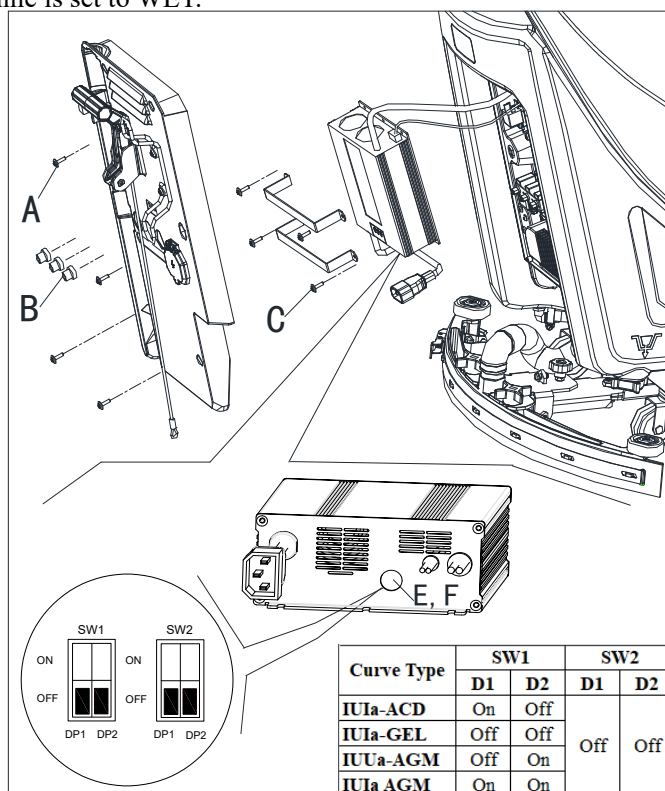

Figure 4.1
6. Remove the screws (A, B, C, Figure 4.1).
7. Remove the plastic plug covering the DIP switch (F), and find the sw1 (E, Figure 4.1).
8. Set the switches as the table of (Figure 4.1).
9. Put the plastic plug back, install the screws (A, B, C, Figure 4.1) after setting completes.